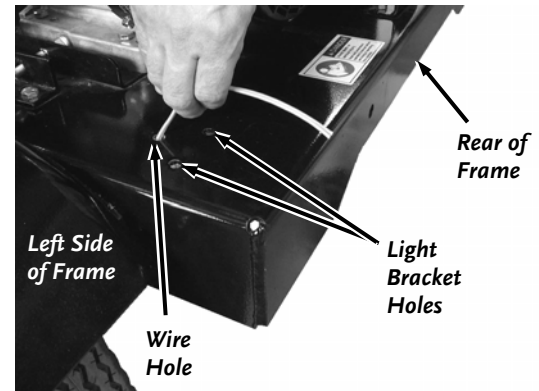

Figure 64
2. Pull the Wires to the back of the Chipper Frame. Pull the Yellow/Brown Wires up through the Wire Hole on the left rear of the Frame (**Figure 64**). Do not pull the Wires through the Bracket Holes.